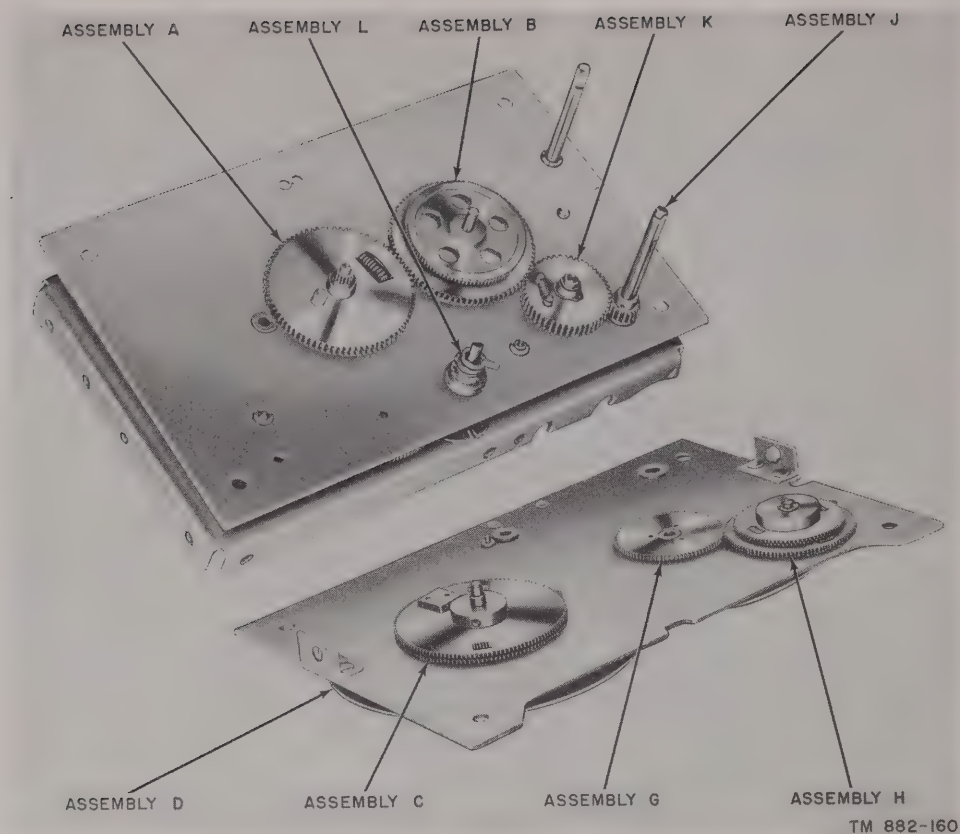
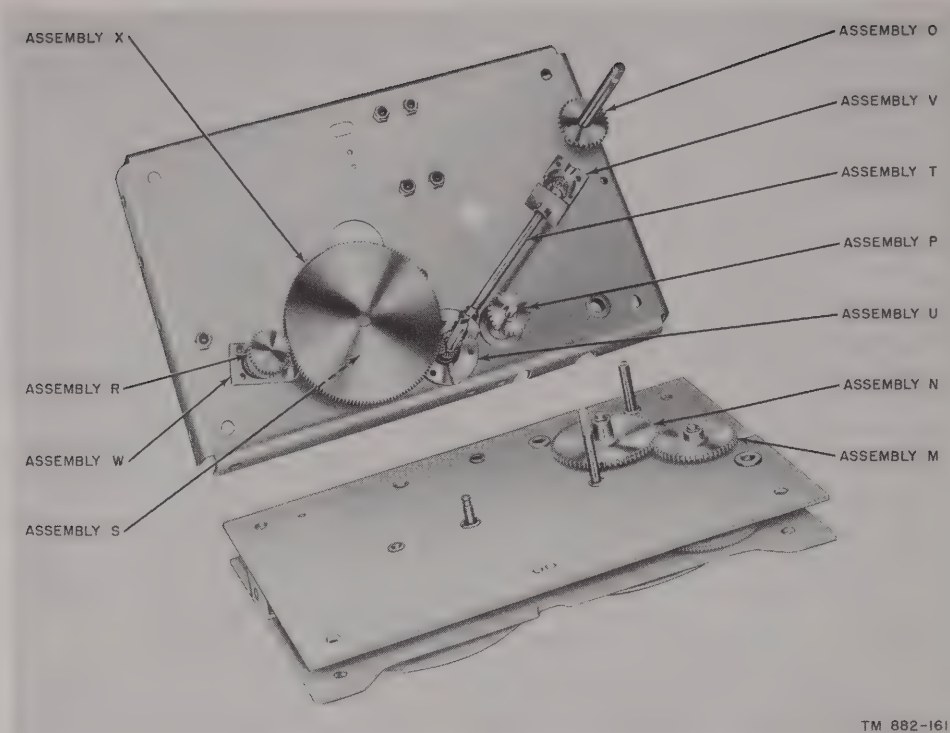

Figure 104. Control head, assemblies A through L.
Figure 105. Control head, assemblies M through X.
ceiver R-220/URR consists of various gear assemblies which are used to continuously tune the receiver to any frequency within the range of 20 to 230 mc. An over-all view of the control head is shown in figure 103. The various parts of the control head are mounted on control plate #1 assembly (AA), control bearing plate #2 assembly (BB), and control bearing frame #3 assembly (CC). Figure 104 shows the assemblies located between control bearing plate #1 and control bearing plate #2 (assemblies A through L); an exploded view of these assemblies is shown in figure 130. Figure 105 shows the assemblies located between control bearing plate #2 and control bearing frame #3 (assemblies M through X); an exploded view of these assemblies is shown in figure 131. Parts shown in figures 103, 104, 105, 130, and 131 are identified by a letter or a letter and number combination. When following the disassembly procedure refer to figures 103, 104, and 105 to locate the assembly; then to figures 130 and 131 to locate individual parts of the assembly.
(1) Place control bearing frame #3 assembly CC face up on a bench. Put a block of wood under each corner to protect the parts which protrude at the rear of the frame. Figure 105 shows the assemblies located on control bearing frame #3 assembly CC.
(2) Make certain that antenna trimmer intermediate gear #1 assembly M is meshed with antenna trimmer intermediate gear #2 assembly N on con-
- (3) Slide stop collar L1 on band switch tuning shaft U3 until L1 is flush with control bearing plate #2 assembly BB. Tighten three setscrews L3. Slide stops L4 and L5 over shaft U3. Spring-load assembly K by rotating intermediate gear #1 K1 counterclockwise three teeth positions. Maintain the proper tension by engaging tuning shaft gear J1 with assembly K. Slide r-f to oscillator gear B1 and r-f even band dial driver gear B2 on vernier drive shaft B5 and tighten setscrews B4. Spring-load assembly A by holding free oscillator anti-backlash gear A 5 and rotating fixed oscillator anti-backlash gear A 2 counterclockwise three teeth positions. Position assembly A so that main stop stud A 4 will come in contact with main dial stop C5 when control bearing plate #1 is assembled. Maintain the proper tension on assembly A by engaging it with r-f to oscillator gear B1. Figure 104 shows control bearing plate #2 BB assembled to control bearing frame #3 CC.
- (4) Spring-load gears H2 and H8 by rotating loose gear H2 counterclockwise one or two teeth positions. Maintain the proper tension by engaging the gears with assembly G. Spring-load gears H1 and H4 by rotating loose gear H1 counterclockwise one or two teeth positions. Use a paper clip or similar device to maintain the proper tension on these gears. Spring-load gears C1 and C4 by rotating loose gear C4 counterclockwise one or two teeth positions. Use a paper clip or similar device to maintain the proper tension. Figure 104 shows the assemblies contained on control bearing plate #1 assembly AA.